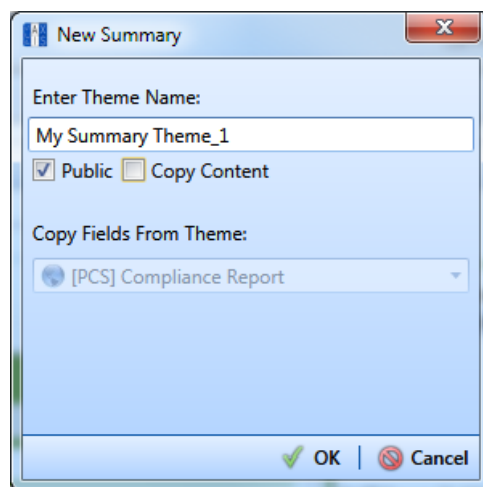

Figure 16-37. New Summary
- 5 Click  **Add** to open the *New Summary* dialog box (Figure 16-37).